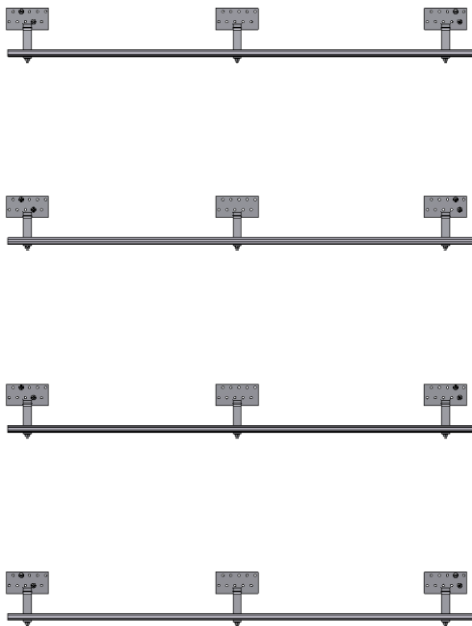

Figure 108: Carrier rail, fitted
- Start with the top or the bottom carrier rail. Align the screws with the fixing points (e.g. roof hooks) and secure them. See Figure 108.